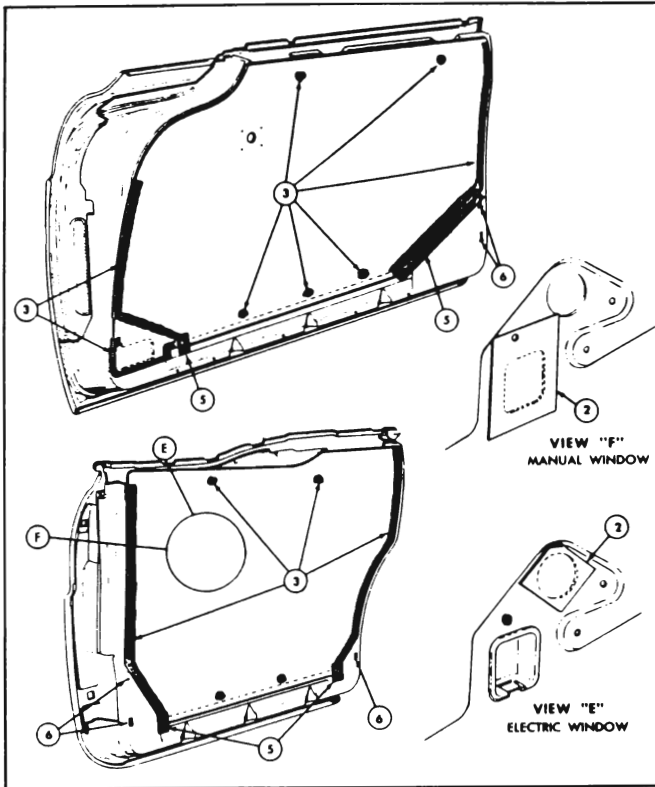

Figure 13-190—Front and Rear Door Water Deflector Installation
2. With a sharp scraper, break cement bond securing edges of water deflector to door inner panel and at spot locations, shown in fig. 13-190 and remove water deflector from door.
Numbered arrows in Fig. 13-190 refer to corresponding installation steps.
2. On rear doors prior to installation of water deflector, apply waterproof body tape over the regulator spindle hole, as shown in View "E" (Fig. 13-190) or over the electric switch hole on styles with manually operated window regulators, as shown in View "F" (Fig. 13-190).
3. Apply an approved rubber cement to door inner panel along a line contacted by front and rear edges of water deflector as indicated in Fig. 13-190. Application should be continuous with no skips. Apply cement at spot locations shown in Fig. 13-190.
5. On all doors apply waterproof body tape to deflector and inner panel at both ends of retaining slot as indicated in Fig. 13-190.
6. Apply rubber cement to seal the lower trim assembly nail slots, as indicated in Fig. 13-190.